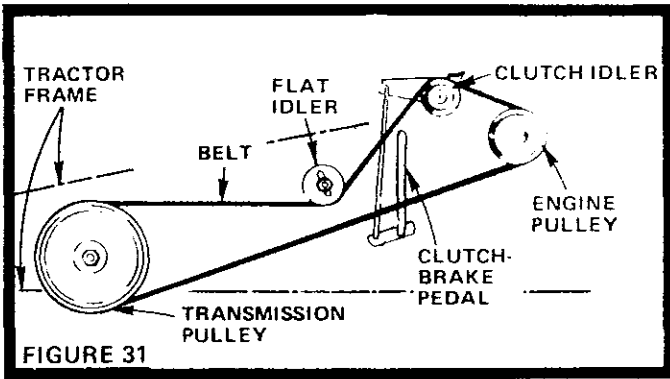

FIGURE 31
- a. Remove Belt from Clutch Idler by depressing Clutch-Brake Pedal (Fig. 31).